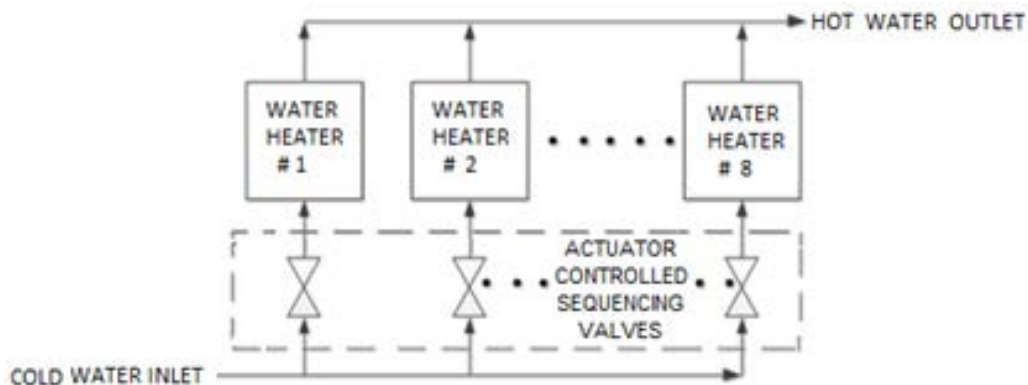

Figure 8-1. Simplified Block Diagram - Water Heater Management (WHM)
The C-More Water Heater Management System (WHM) is designed to ensure that all hot water boilers in the system operate at maximum efficiency. This is accomplished by monitoring the Air/Fuel Valve position (VP) of all hot water boilers that have their sequencing valves open. Units with open sequencing valves are called enabled units. Units with closed sequencing valves are called disabled units. Units which are unable to function, due to a fault or user intervention, are called offline units. When there is minimal or no demand for hot water, the sequencing valve for one unit will be open. As system load increases, the WHM will open the sequencing valves on additional heaters. A simplified block diagram of multiple hot water boilers connected to a WHM is shown in Figure 8-1.